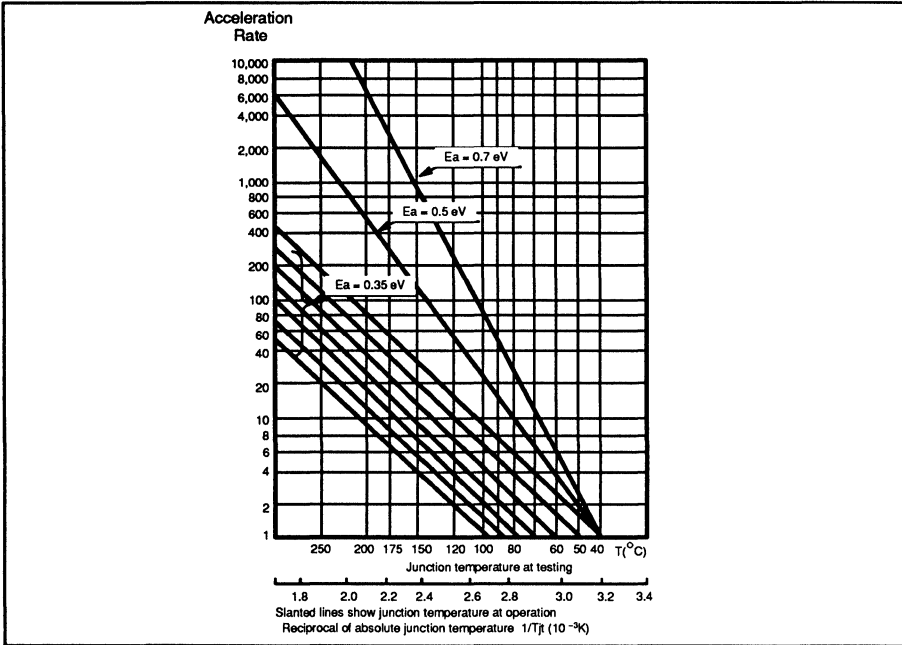

Figure 6-4. Acceleration Rate vs. Junction Temperature
- (3) Calculate the acceleration rate (α) from the difference of $T_{j(op)}$ and T_{jt} using Figure 6-4.